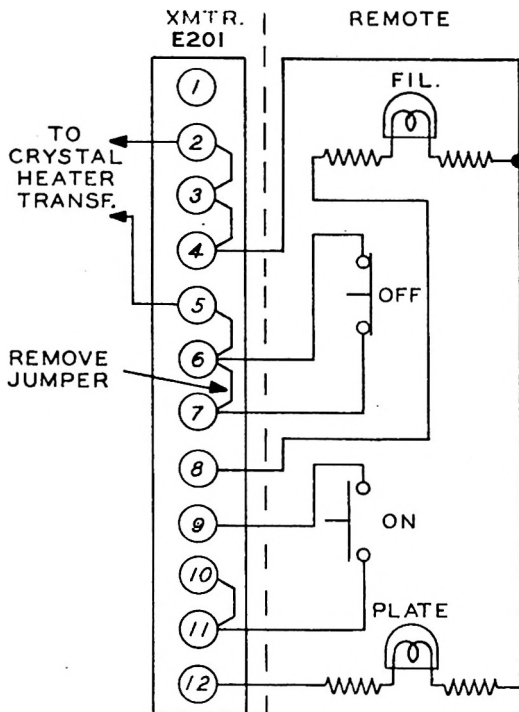

Figure 2-6 Remote Control Circuits
2.3.1. Start Button. (Refer to figure 2-6). The start circuits may be remotely controlled by making connections to terminals 11 and 9 on terminal strip E101. The start switch should be a momentary make type, one normally open circuit, Collins Part Number 260 0355 00. When this remote switch is pressed it turns on the complete transmitter. The FILAMENT pilot light will come on immediately and the PLATE pilot light will come on as soon as the time delay relays have operated. When the PLATE pilot light comes on at the remove position, it does not mean that the transmitter is on the air. Circuit breakers S25P, S266, S273, S281, S274 and S282 on the control panel must be in the ON positions. If the circuit breaker S282, PA PLATE, is turned OFF or is in the OFF position when the remote button is pressed, the PLATE pilot light on the transmitter proper will not light or will go off.